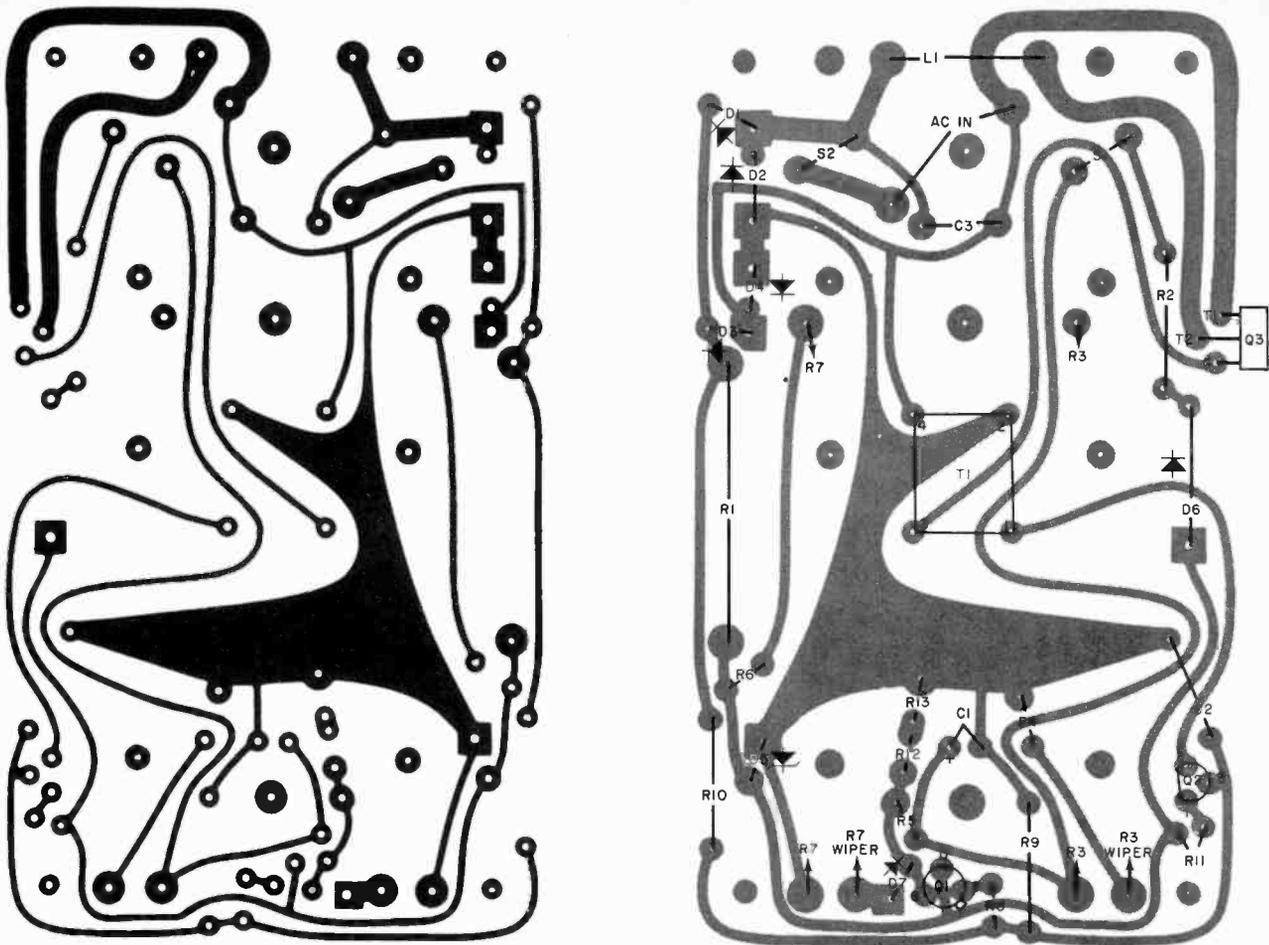

Fig. 2. Actual-size etching and drilling guide is shown above left, with component layout guide above right.
**Construction.** To keep the dimmer as slim and compact as possible, it is recommended that you build it on a printed circuit board. An actual-size etching and drilling guide and component placement diagram are shown in Fig. 2. Note that the entire circuit, including controls and switches, mount directly on the pc board. To avoid lead breakage from vibration, it is best to epoxy T1 to the board. It is also advisable to mount R1 about 1/4" (6.4 mm) above the surface of the board to assure good heat transfer.